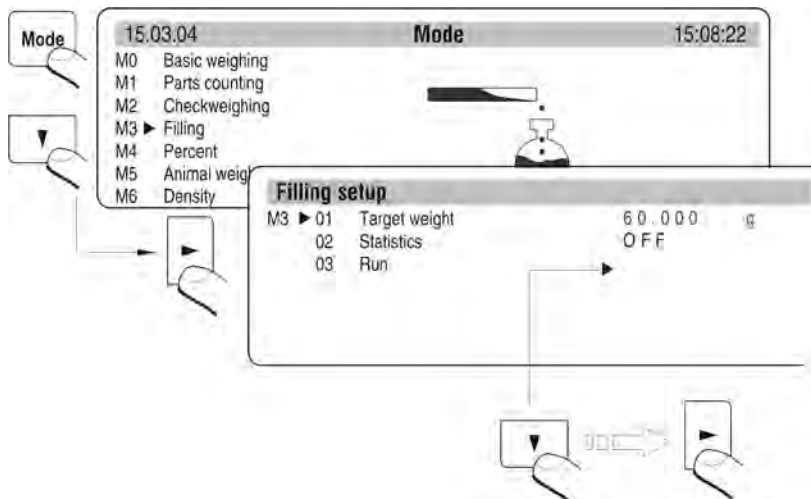

Fig. 40. Filling – mode activating
- 3 – REF – reference mass (see Fig. 40 – M4 01)